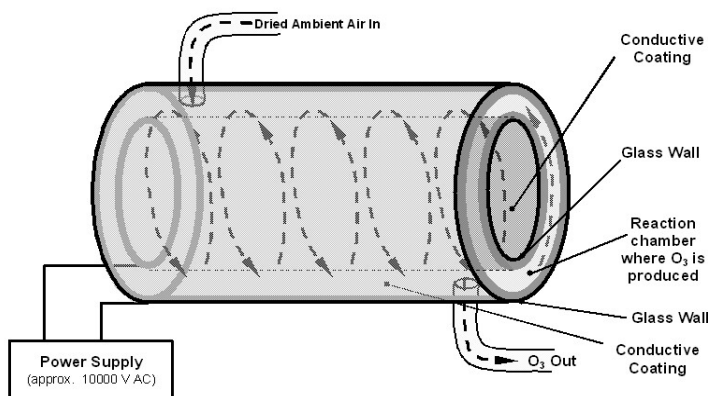

Figure 6-9. Ozone Generator Principle
The analyzer uses a dual-dielectric, Corona Discharge (CD) tube for creating its O₃, which is capable of producing high concentrations of ozone efficiently and with low excess heat (see Figure 6-9). The primary component of the generator is a glass tube with hollow walls of which the outermost and innermost surfaces are coated with electrically conductive material.